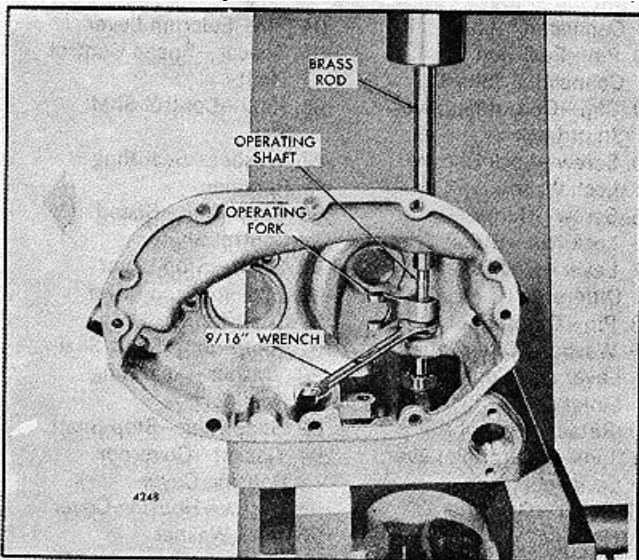

FIG. 16 Removing Operating Fork, Shaft and Lever Assembly from Governor Housing
- g. With the housing still supported on the bed of the press, place a 9/16" open end wrench under the operating fork as shown in Fig. 16. Place a brass rod on the end of the shaft and press the fork off of the operating shaft. Remove the shaft, operating lever and bearing as an assembly from the housing.